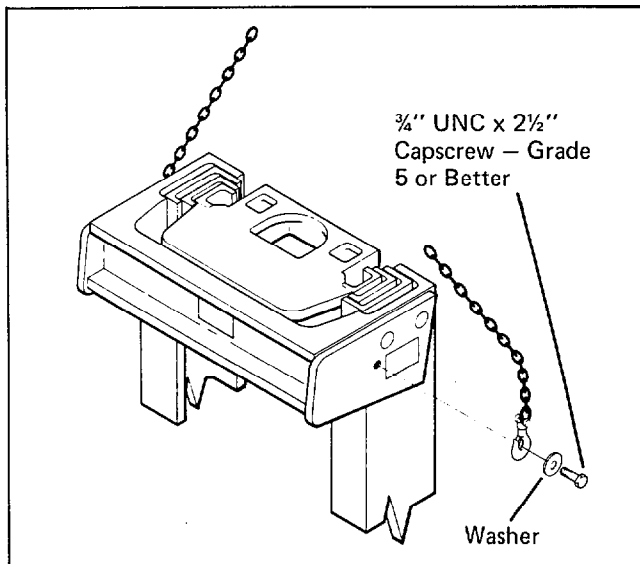

Figure 1-6 Lifting Procedure
1. Thread a 3/4" UNC x 2-1/2" capscrew (grade 5 or better) with a large flatwasher into the hole on each side of the mast as shown in figure 1-6.